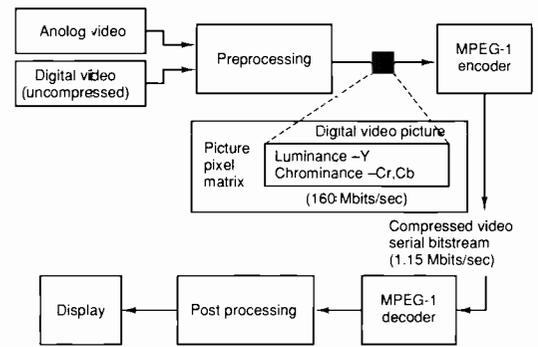

Fig. 3. Video encoding/decoding scheme for the MPEG-1 standard.
Powering the buffer and the central control node from their own local mains supplies – which may be a fair distance apart – is problematical, **Fig 3**.
**Fig. 3.** When the host and remote signal buffer have independent mains-derived power supplies, the two are connected via their earths. If the two are also linked by a signal earth ground loops will inevitably cause problems.